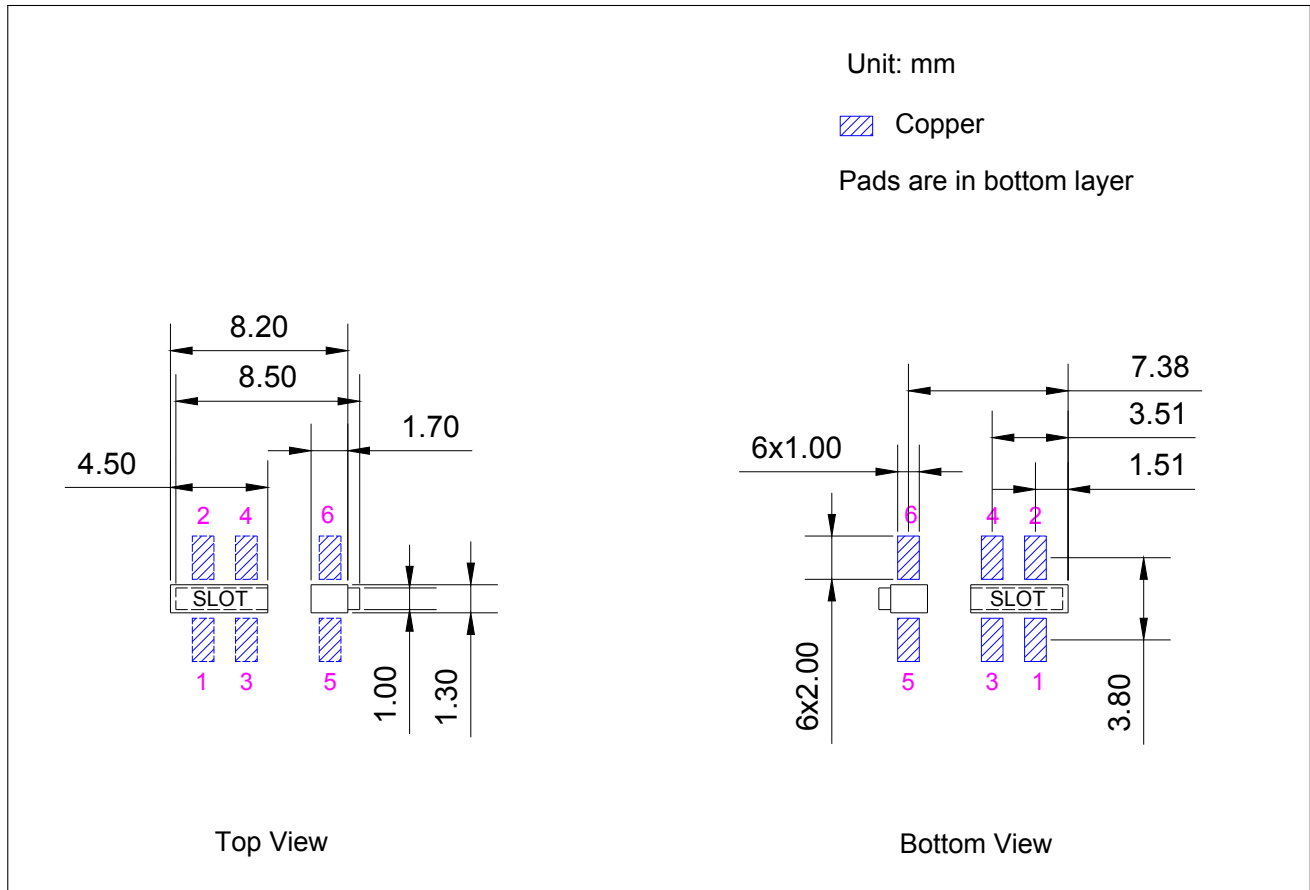

Figure 11-1. Recommended PCB Land Pattern
- Figure for the recommended PCB land pattern with all the dimensions needed for PCB design. See Figure 11-1 *Recommended PCB Land Pattern*.
- Source file of the recommended PCB land pattern to measure dimensions not covered in Figure 11-1. You can view the source files for ESP8685-WROOM-07 with Autodesk Viewer.